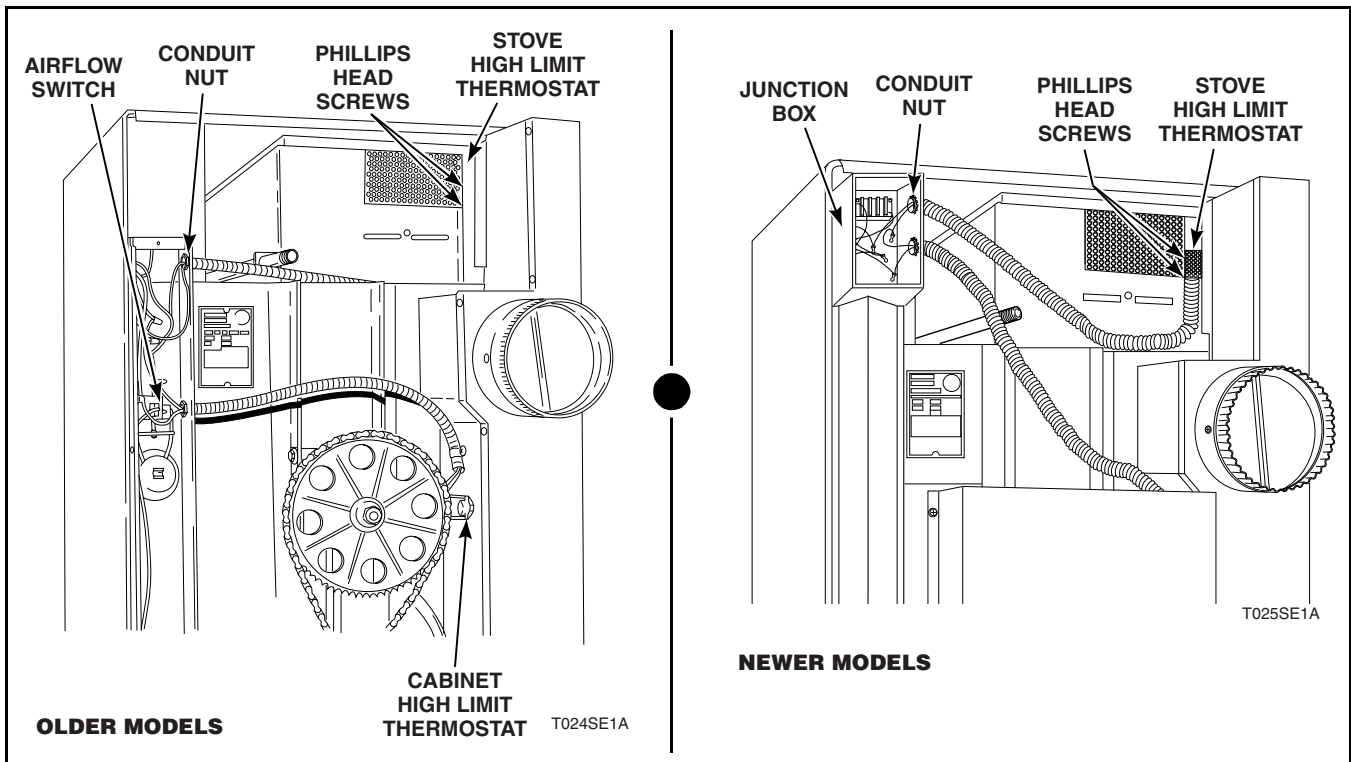

Figure 28
- b. Remove screw holding cover plate to wire-way (older models); or, remove screw holding cover to junction box or airflow switch box (older models). Remove cover. Refer to *Figure 28*.
- d. Remove conduit nut from BX on inside of wire-way or junction box. Refer to *Figure 28*.
- e. Remove two screws holding thermostat and bracket to rear side of burner. Refer to *Figure 28*.